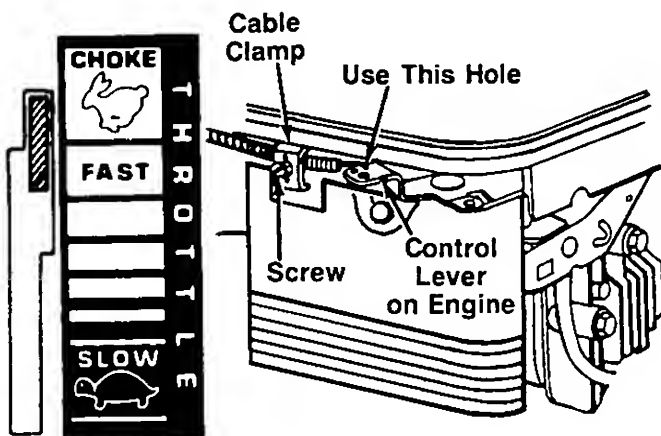

FIGURE 5.
1. Push the throttle control lever on the handle all the way forward to CHOKE position. See figure 5.
2. The throttle control cable is attached to the upper handle. Route the throttle control cable under the lower handle. Route the cable to the **outside** of the handle wheel bracket assembly and height adjustment lever, then in back of the engine. Hook the "Z" end of the throttle control cable into the **inside** hole in the control lever on the engine shown in figure 5.
3. Using a screwdriver, remove the screw and cable clamp shown in figure 5.